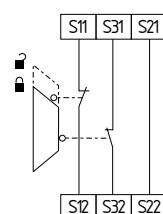

Fig. 12
**Dual-channel guard door monitoring circuit with interlocking device to EN ISO 14119 (see Fig. 12)**